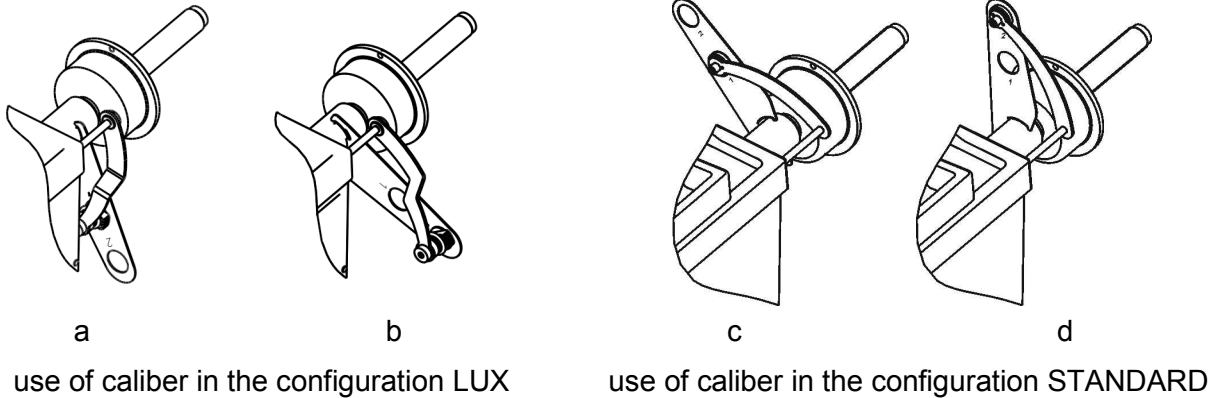

Figure 8.1
Set the gauge arm caliber on the shaft of the machine up to the stop, by orienting the caliber in the down position for the machine of the configuration LUX or in the up position for the configuration STANDARD, as shown in Figure 8.1.
*Put the tip of the gauge arm in the hole 1 of the caliber, as shown in Figure 8.1 a, c. Hold the gauge arm in this state, press **ENTER**.*